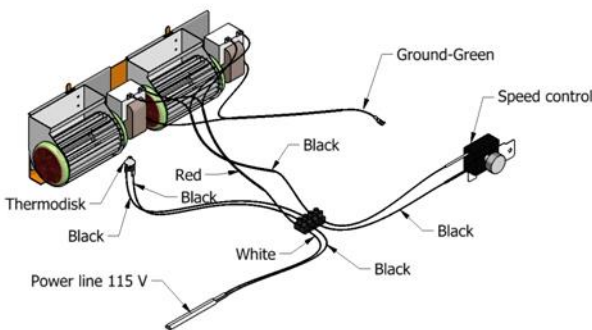

Figure 22 – Fan Wiring
2. Make the electrical connections (see figure 22). The electric power must be convenient place.